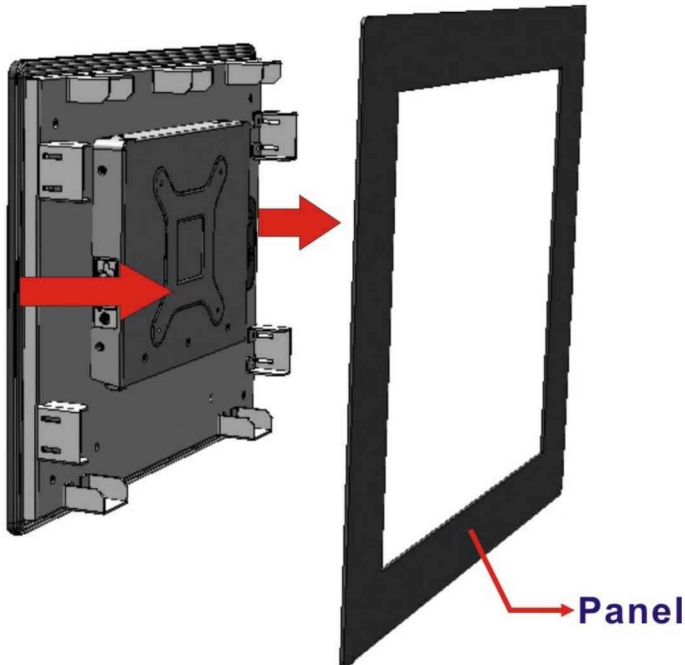

Figure 3-24: Slide into the Panel
Step 4: Slide the monitor through the hole until the aluminum frame is flush against the panel (Figure 3-24).